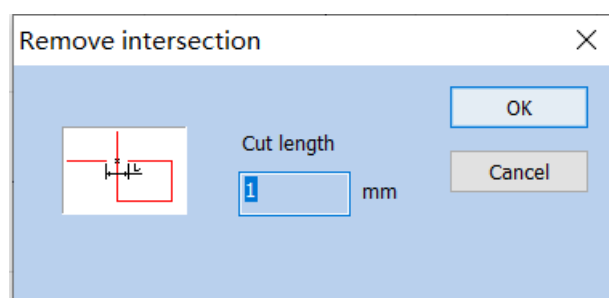
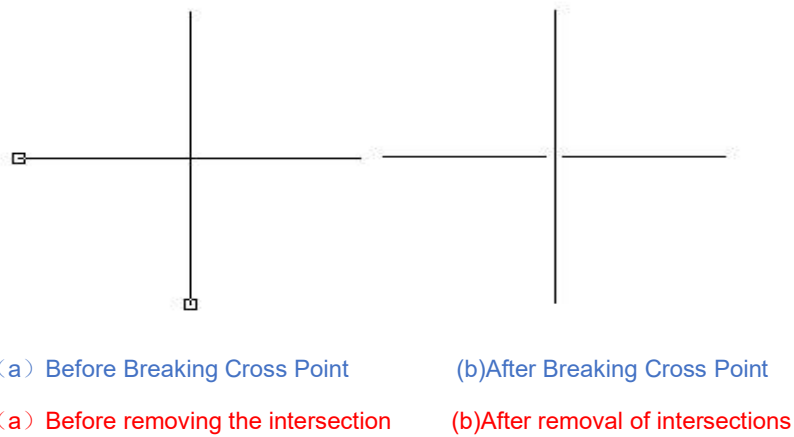

Fig. 5-12 Dialog Box of Breaking of Cross Point Remove intersections
Fig. 5-13 Example of Breaking Cross Point Cut length
**Length of Cross Point Cut length:** It means the length of the Crossover line part that we designed, as shown in Fig. 5-12. Take the following Fig. 5-13 for example: